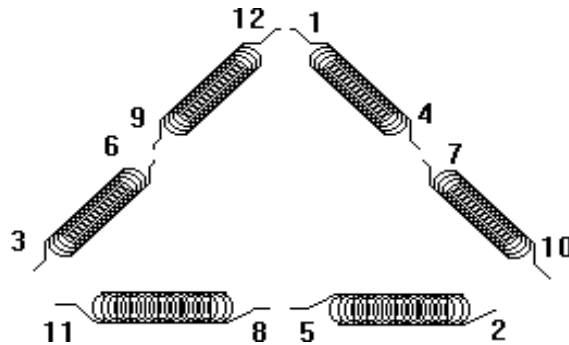

Figure 7, Schematic for a Dual Voltage Three-Phase Delta Connected Motor
- **Delta Connected Motor.** The symbol for a delta-connected motor is the Greek letter delta (Δ). Figure 7 shows a dual-voltage delta connected motor. Leads 10, 11, and 12 are connected inside the motor to leads 1, 2 and 3 respectively. Leads 1 through 9 are brought out in the terminal box of the motor.